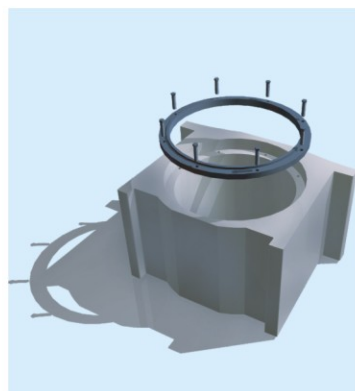

Fig.7-5 : Fastening the end cap on the roll body side
- Screw the roll-side cover on to the chock (Fig 7-5)